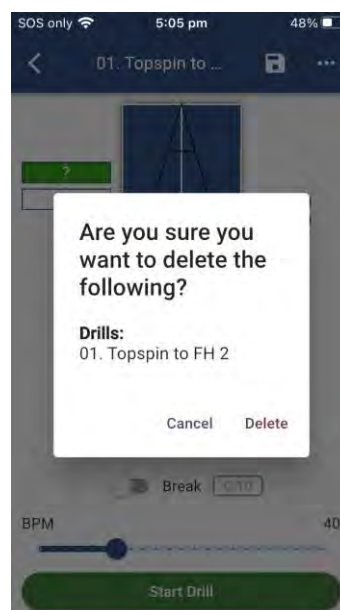

Figure 3-47
4. Confirm that you want to Delete the Drill by pressing/touching “Delete”. (Figure 3-47)